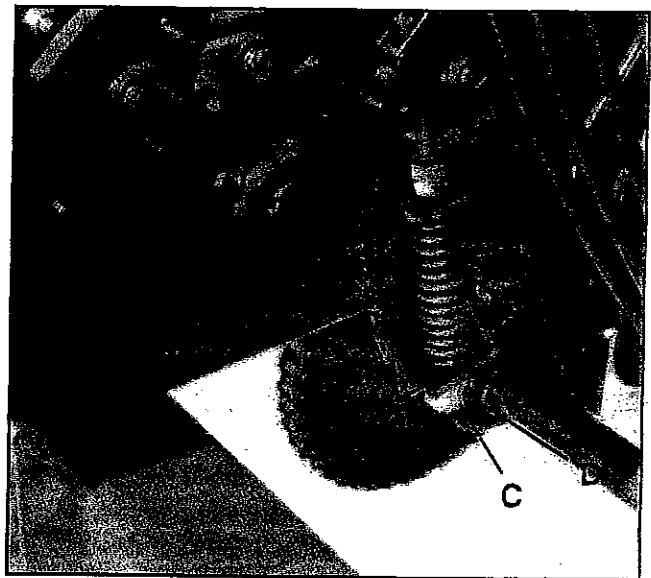
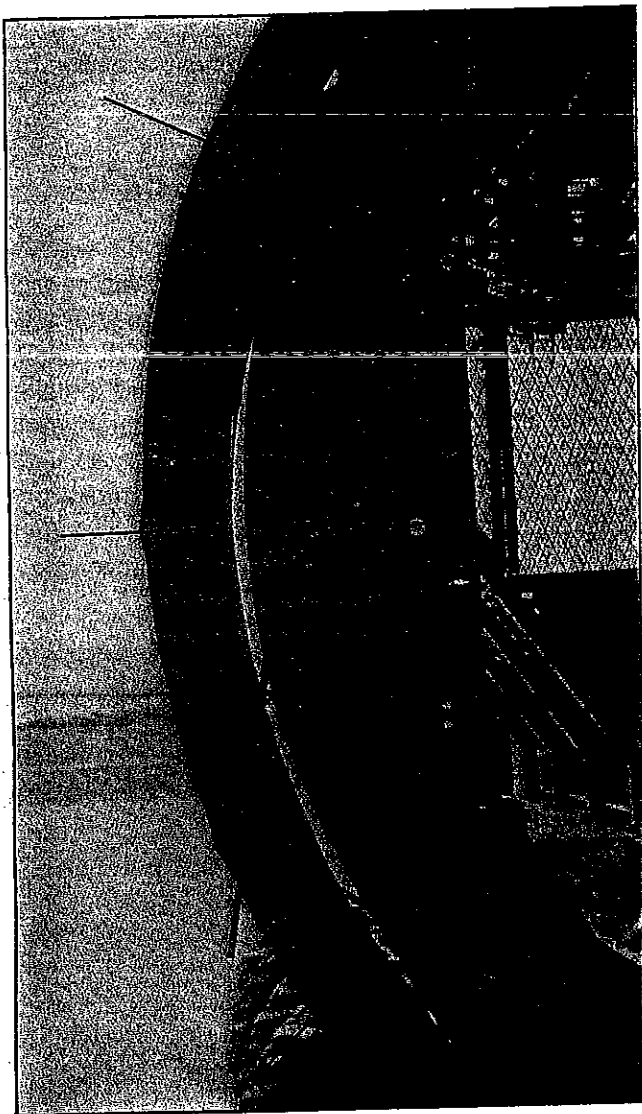

FIGURE 55 - WHEEL ELEVATOR DRIVE
FIGURE 56 - WHEEL CHAIN TENSIONING
Remove one of the square wear plates on the wheel. Use that hole to wire the wheel elevator chain to the wheel. Make sure to reinstall the wear plate after the chain is installed. Turn the wheel manually to install the chain. Wrap around the drive and tightener sprockets as shown and install the connector link (see Figure 55). Tighten the chain by loosening jam nut (A) and turning adjusting nut (B). Check this adjustment by pulling the chain *away from* the rear of the wheel elevator. A 1/2" to 1-1/2" distance indicates proper tension (see Figure 56, page 36).
Set dampener spring length to 6-3/4" (see arrows in Figure 55). Adjust if necessary by loosening jam nut (C) and turning adjusting nut (D) (see Figure 55).